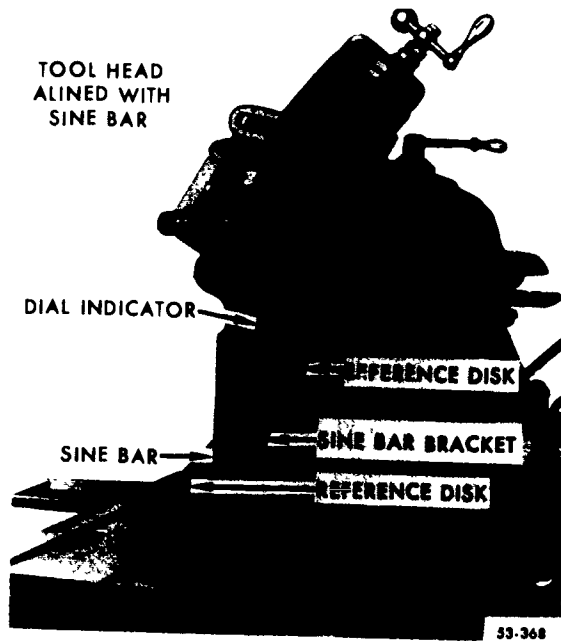

Figure 2-27. Aligning toolhead with a sine bar.
**Angular Planing.** You can machine angular surfaces by: (1) swiveling the vise, (2) swiveling the toolhead, (3) swiveling or tilting the table, and (4) by mounting the work either on an adjustable angle plate or on a fixture.
**Swiveling the toolhead.** The toolhead can be used to machine surfaces that are parallel to the stroke of the ram but at an angle to the vertical centerline of the toolhead. Swivel the toolhead to the required angular setting and feed the tool by hand with the toolhead crank. Use the toolhead graduations for angles requiring average accuracy. Align the toolslide with a dial test indicator and a sine bar, as shown in figure 2-27, when you are machining angles that must be highly accurate.